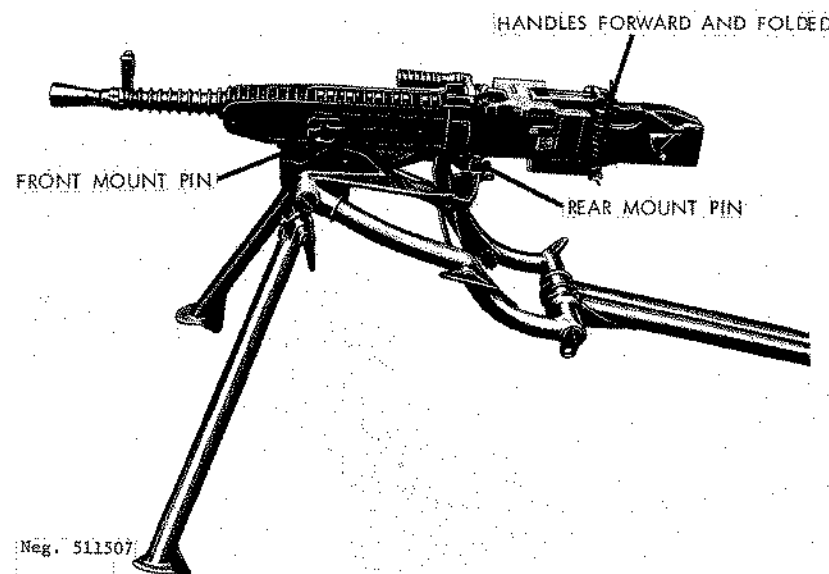

Figure 208. ZB-37 on its tripod.
b. Mount the gun on its tripod by seating the mounting brackets onto their seats in the mount and installing the mounting pins (fig 208).